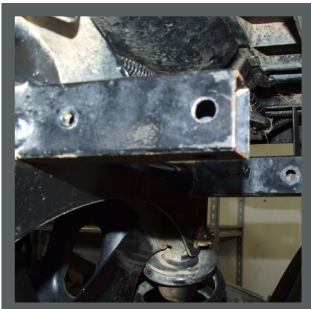

Figure 1
1. The rear most holes on both sides of the machine must be drilled larger to accommodate the new mounting bolts. Drill holes using an **8mm** or **5/16" bit**. (See Figure 1) Retouch the paint to prevent rust.